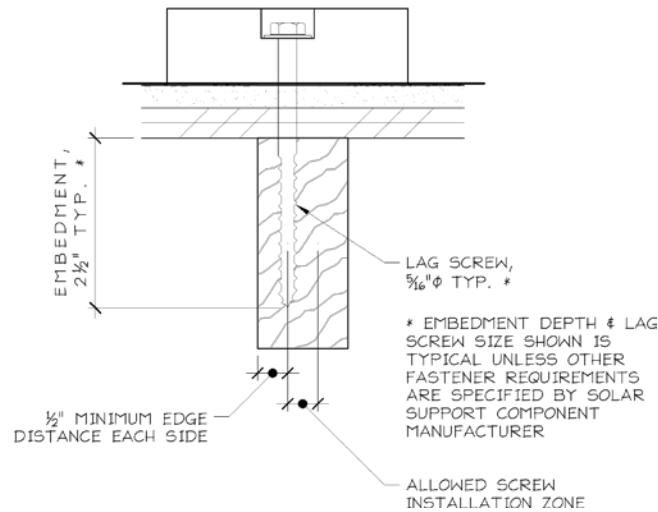

Figure 3. Typical Anchor with Lag Screw Attachment
- 1) Anchor fastener data (see Figure 3):